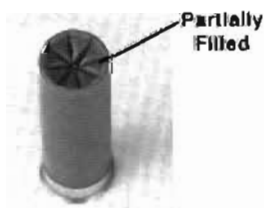

Fig. 31
**Figure 31** - Not enough shot or powder, or the wad may be seated too deep. The crimp is proper, but the shell looks slightly empty. Recheck your bushings combination to make sure you are dropping the pro-